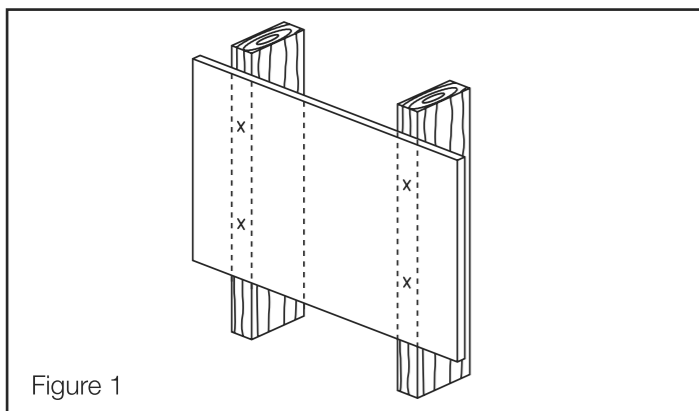

Figure 1
2. Mark a minimum of 4 fixing holes over stud centres using the Wall Plate as a guide - position 2 at either end of the Wall Plate (see Figure 1). Ensure plate is level using a spirit level.